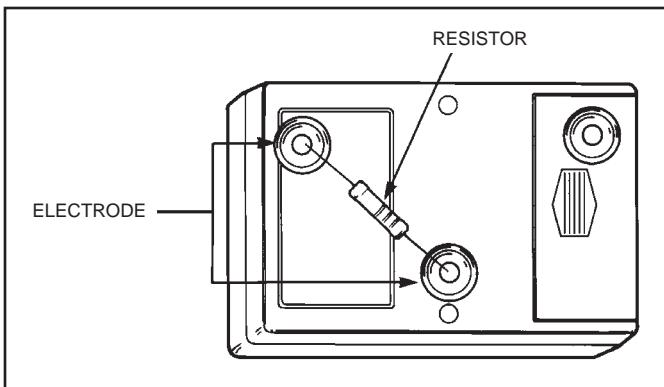

Figure 7. Calibration of the Micro Meg
A check on the function of the Micro Meg can be performed with the following procedure. You will need 1% resistors of the following values: 5 x 10E5 ohms; 5 x 10E6 ohms; 5 x 10E7 ohms; 5 x 10E8 ohms, 5 x 10E9 ohms, and 1 x 10E10 ohms. These precision resistors will be placed across the two electrodes on the bottom of the meter (see Figure 7).
B. Place the $1 \times 10E10$ ohms resistor across the middle electrode and the side electrode as illustrated in Figure 7. Press the test button. The second LED should light. Be sure not to contact the leads or the buttons as your body's resistance will affect the readings. Then use the $5 \times 10E9$, the 3rd LED should light. Continue down the line of resistors to test all the ranges.